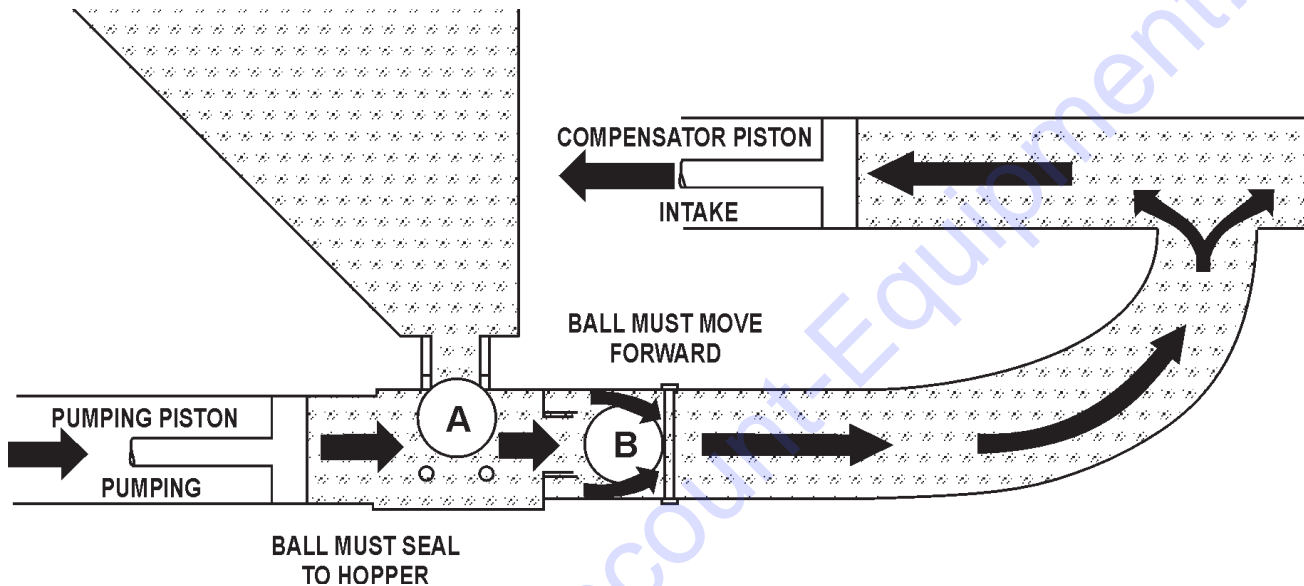

Figure 3. Pumping Pistons
The return spring which is installed on the rocker arm, is installed to eliminate shock and stress between the cam roller and the cam weldment when the pump is in operation. If the return spring is removed or replaced for any reason, maintain the backing plate dimension of 3” as shown on Figure 3, to produce the proper pre-loading of the spring for a smooth performance.
The pumping piston (Figure 3) is forcing the material past ball (B) and out to the nozzle, also seating ball A so that the material will not flow back to the hopper. This action also fills the compensator piston for the next stroke.